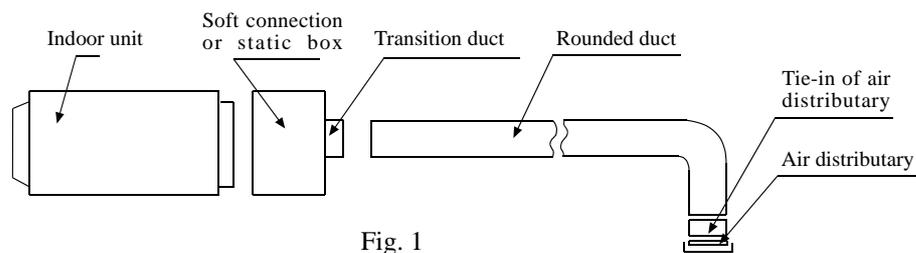

Fig. 1
4. The connecting pipe between the indoor and outdoor units as well as the drain pipe shall be as short as possible. (See Figure 1)
- The rounded duct needs to add a transition duct to connect with the air-sending duct of indoor unit, then connect with respective separator. As Fig. 1 shown, all the fan speed of any of the separator's air outlet shall be adjusted approximately the same to meet the requirement for the room air conditioner.